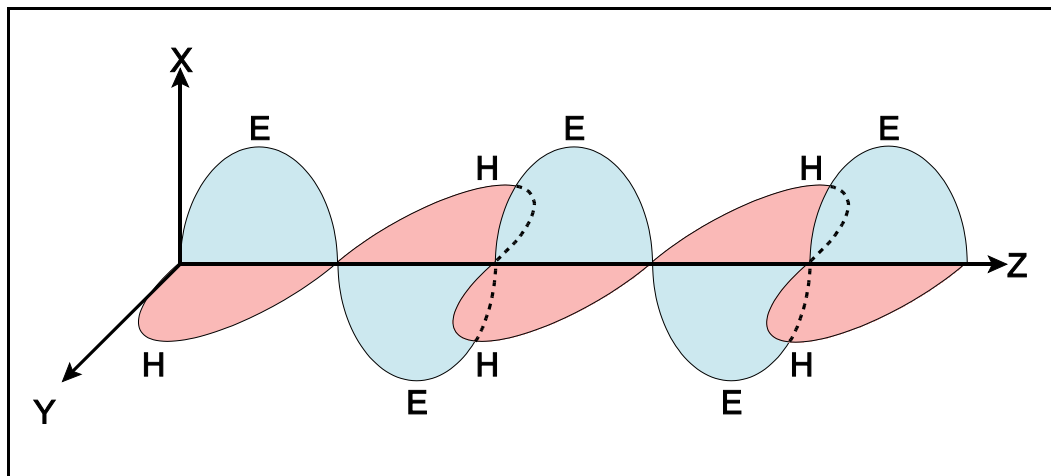

Figure 19.1 Vertical Polarisation
The resulting EM energy is made up of two components, an electrical (E) field parallel to the wire and a magnetic (H) field perpendicular to the wire. (See Figure 19.1)